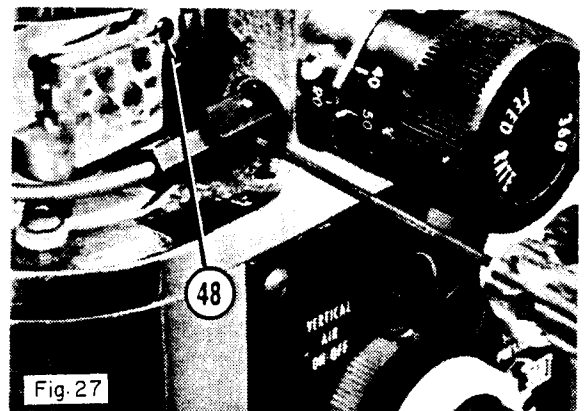

Fig. 27
c. When one sector is balanced out, tighten the setscrews (48) and proceed to adjust the opposing spool in the same manner as stated previously in this section. (Fig. 27)